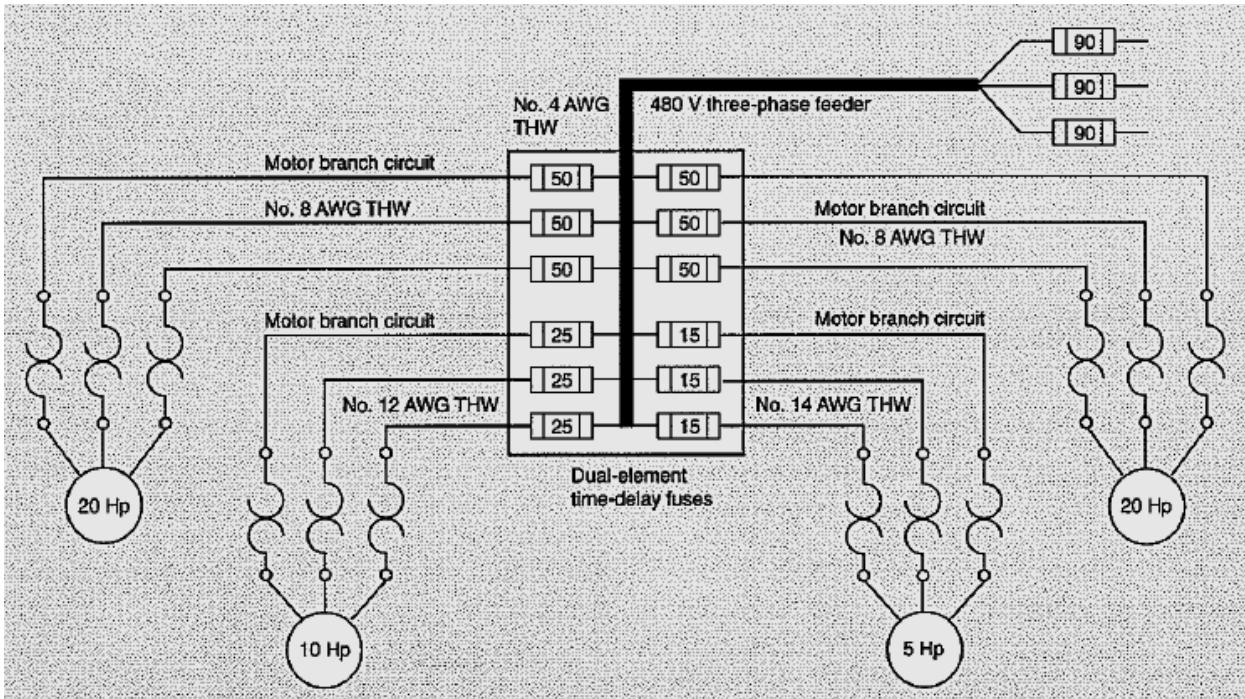

Figure 6.2: Motor Branch-Circuit Conductors and Protective Devices
- 6-6 For example, suppose you have a feeder that supplies four 480 V three-phase motors of different sizes, as shown in Figure 6.2. What is the rating of the proper fuses to use in protecting the feeder circuit?
- 6-11 Section 430-24 of the National Electrical Code requires a feeder rating of 125% of the full-load current of the motor with the highest current, plus the full-load current of the other motors. In the example shown in Figure 6.2, the feeder size is calculated in the following way: